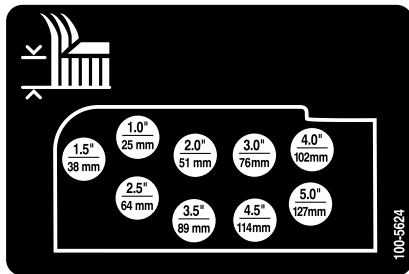

Figure 21
- Mount the height-of-cut chains to the desired height-of-cut hole (Figure 21) with the clevis pin and hairpin cotter.